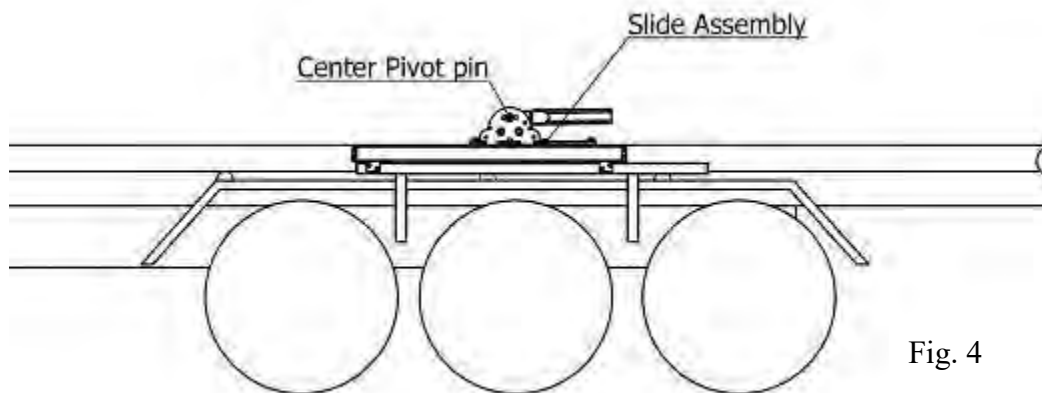

Fig. 4
- 3) Set the pivot assembly on the horizontal mounting tube (installed in previous step) so that the sliding assembly is to the rear and the center pivot pin is in line with the pivot point (see fig. 4)
Note: To ensure proper operation the cylinder needs to be slid all the way to the back (as shipped and as shown below in Fig. 4) at the time of install.